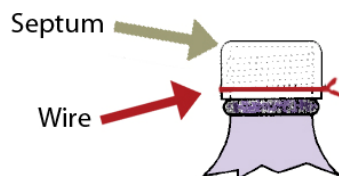

Fig. 1A Septum wired to vessel
- For long-term storage, the septum should be secured with a copper wire (figure 1A).